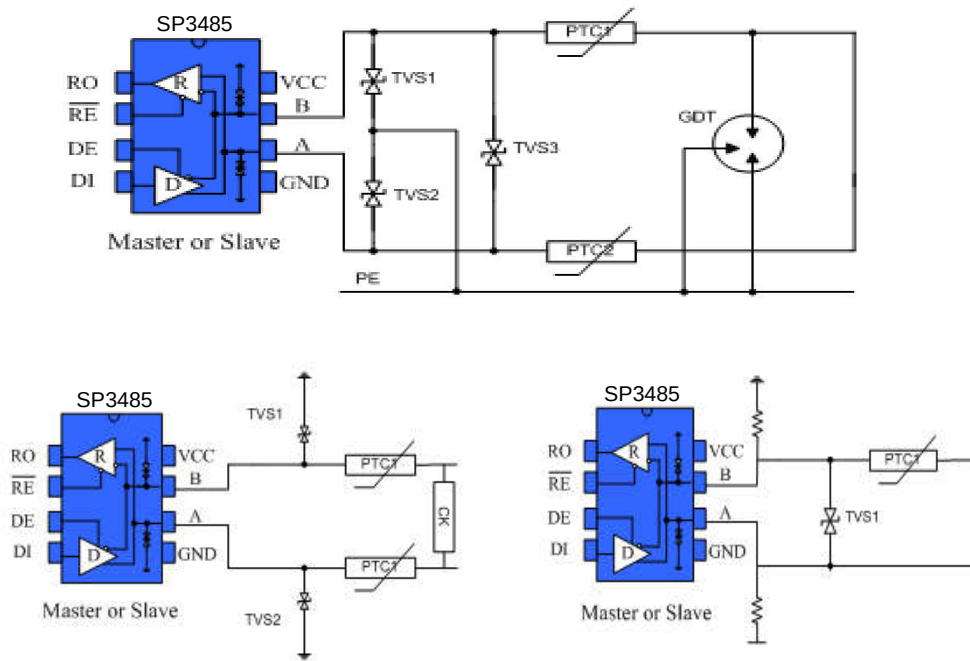

Fig. 11 Bus port protection scheme
**4.3 Bus port protection:** In harsh environments, RS485 communication ports are usually protected against static electricity, lightning and surge protection, etc. and it is even necessary to prevent 380V power supply access to avoid damage of smart meters and industrial control hosts. Figure 11 shows 3 common kinds of RS485 bus port protection schemes.